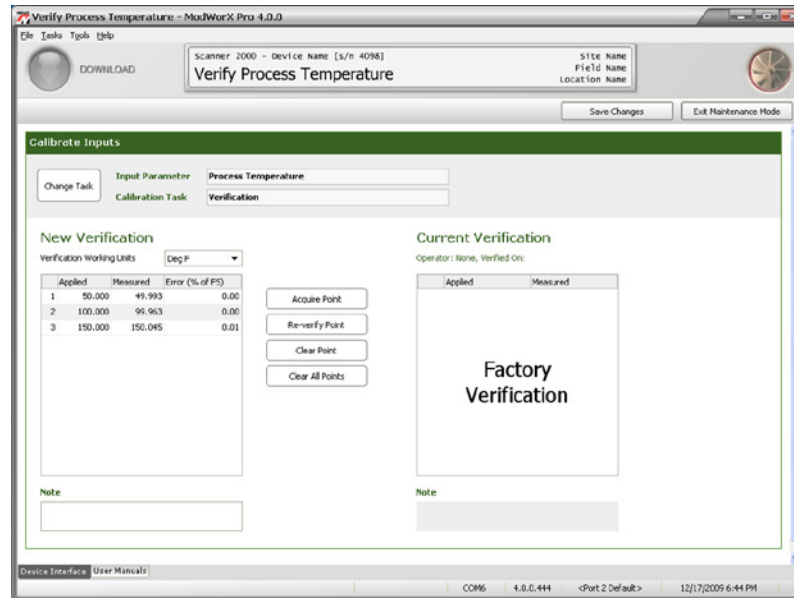

Figure 8.23
- When a measured value is indicated, click **OK** to save the verification and return to the Verify Process Temperature screen (Figure 8.23, page 126). The New Calibration table is updated with the applied temperature, the measured temperature, and a percentage of error. The percentage of error is expressed as a percentage of full scale, and is calculated with respect to the applied value.